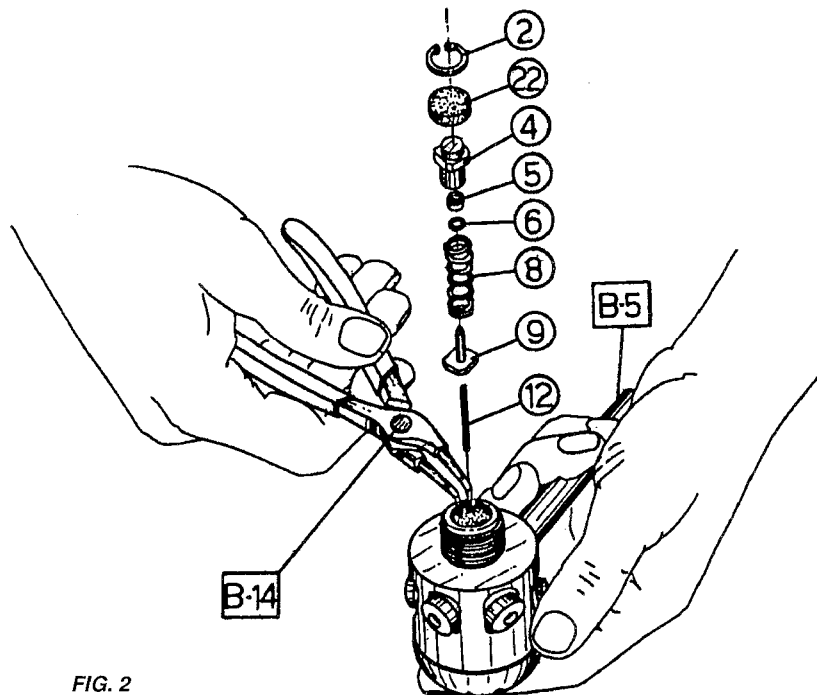

FIG. 2
- A. Using a 6 mm valve seat wrench (B-8), unscrew the DIN connector coupling (51) and remove the o-rings (23) and (50).
- B. Draw off the lock nut (49).
- C. Unscrew the DIN connector coupling (48) with the spanner (B-16) and remove the O-Ring (23).
- 4. Using the seeger pliers (B-14), remove from the First Stage body (1) the seeger (2), the sintered filter (22), the HP chamber (4+5+6), the spring (8), the valve (9) and the thrust pin (12). (Fig. 2).